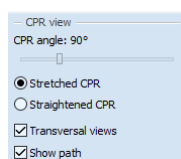

Figure 309 – CPR view settings
- To change the position of the transversal views along the curved plane, drag and drop yellow intersection line belonging to the central (B) transversal view.
- To show/hide CPR path, check/uncheck the **Show path** check box in the **CPR view** part in the **CPR** tool (see Figure 309).
- To change the current CPR projection, click **Stretched CPR** or **Straightened CPR** radio button in the **CPR view** part in the **CPR** tool (see Figure 309).
Transversal views can be hidden anytime by unchecking **Transversal views** check box in the in the **CPR view** part in the **CPR** tool (Figure 309).